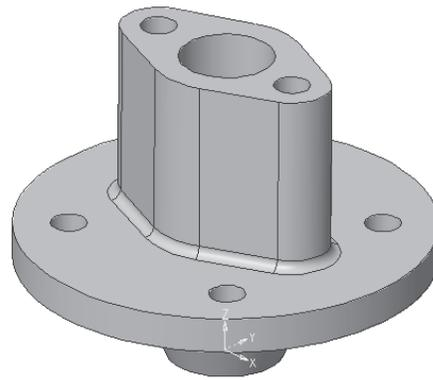

Figure 3-73 Model after creating four holes and the fillet
- Create a hole using the **Drill Hole Feature** tool and pattern it using the **Circular Array** tool, refer to Figure 3-73.
17. Set **4 mm** in the **Radius** spinner and choose the **OK** button. The model, after creating the hole and the fillet, is shown in Figure 3-73.